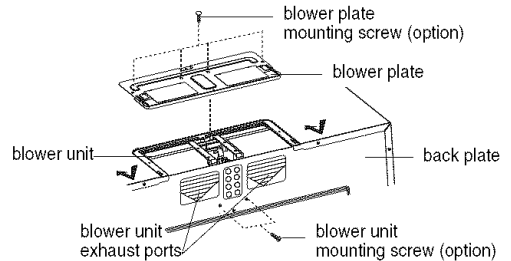

Figure 17
6. Reattach the blower plate to cabinet so the exhaust ports and blower plate opening are aligned. Attach with one blower unit mounting screw and then one or two blower plate mounting screw. See Figure 17.